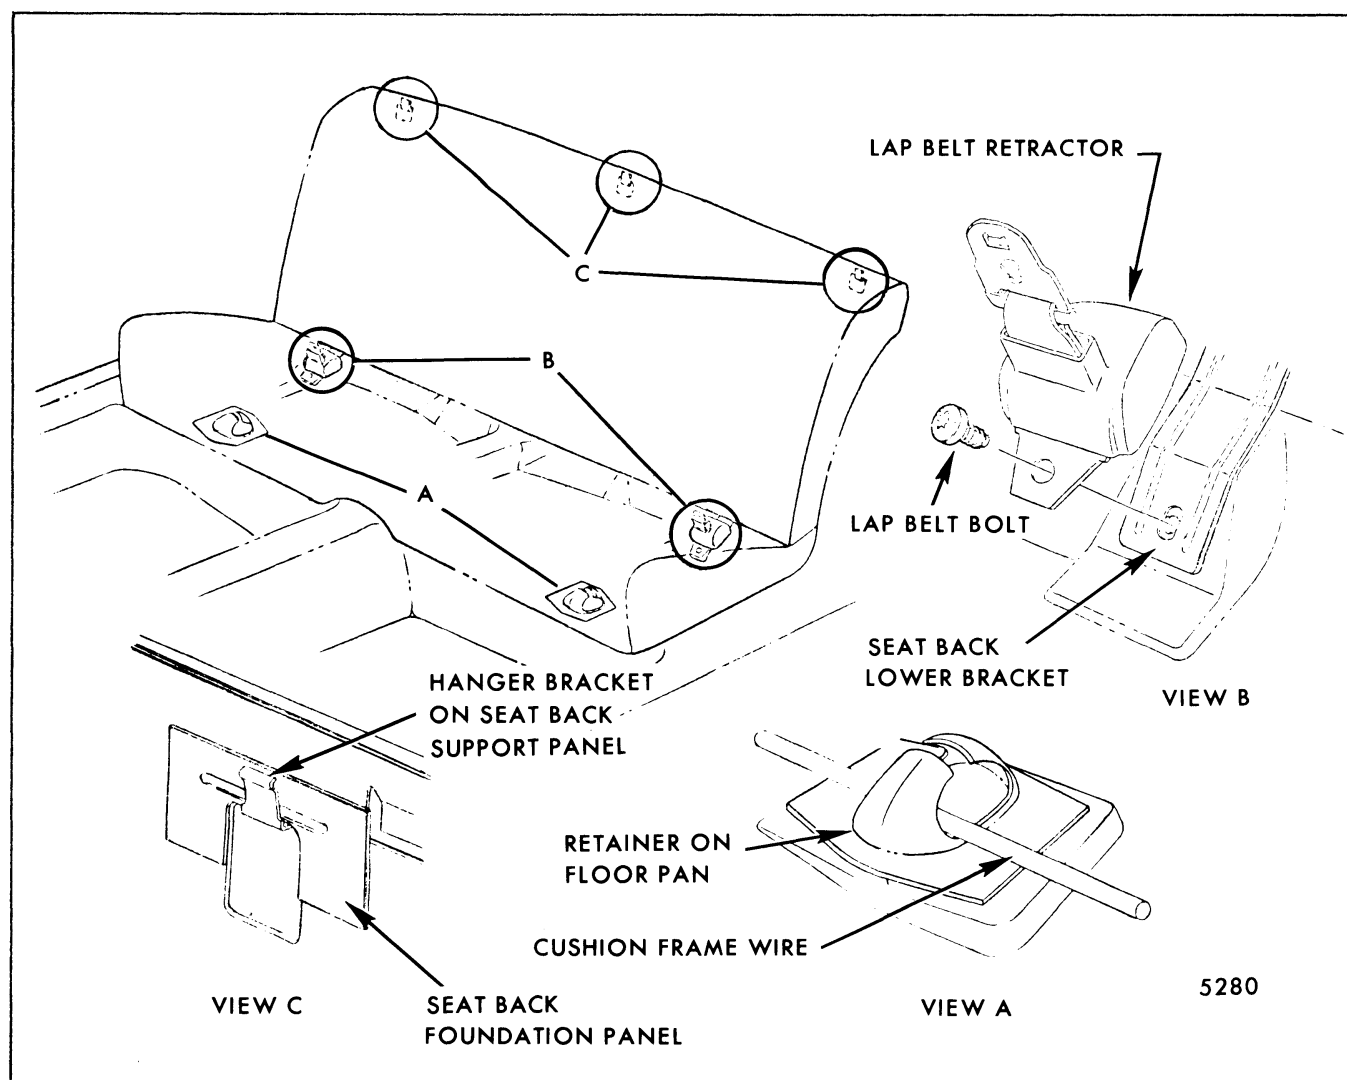

Fig. 9-55-Rear Seat Cushion and Back Installation - "B-C-D-E" Body Styles Except Station Wagon
1. Push lower forward edge of seat cushion rearward; then, lift upward and pull forward on seat cushion frame to disengage cushion frame wires from retainers on rear seat pan (Figs. 9-55 and 9-54).
2. Align wire protrusions on front of seat cushion frame with retainers on floor pan (Fig. 9-55). Push seat cushion assembly rearward until protrusions engage in retainers; then, press down and pull cushion forward to fully engage in retainers.
panel support securing upper corners of seat back to panel (see Figs. 9-55 and 9-56).